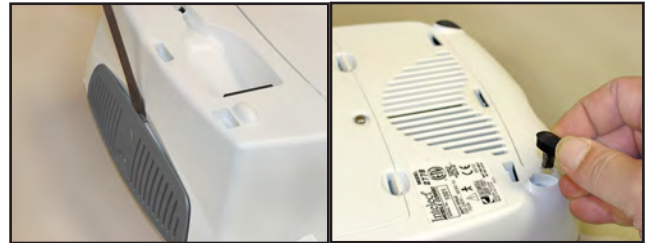

FIGURE 6.1
2. Remove Lower Front Feet and Rear Fan Grill. Use a Flat Blade Screwdriver to gently pry the Fan Grill free. **See Figure 6.1.**